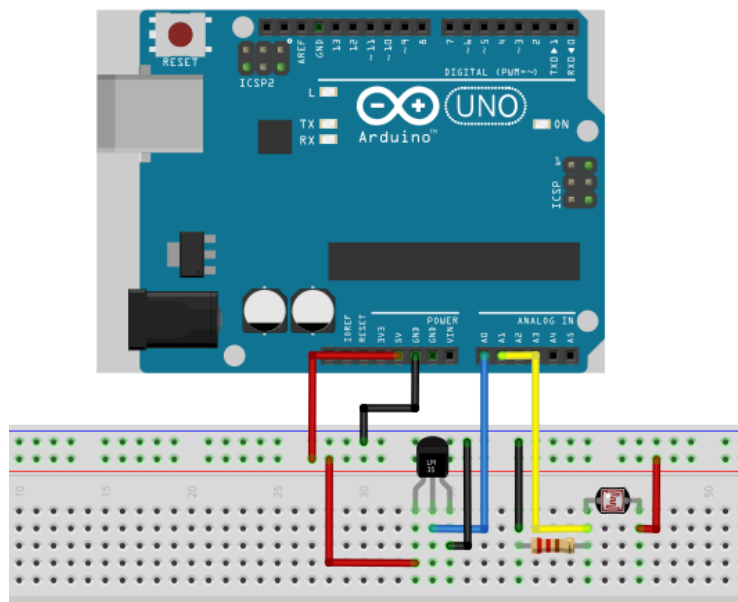

Figure 6.5: Sensor and LDR to Arduino UNO Circuit Setup
1. Connect Vout of the LM35 to analog pin A0. (Figure 6.5)